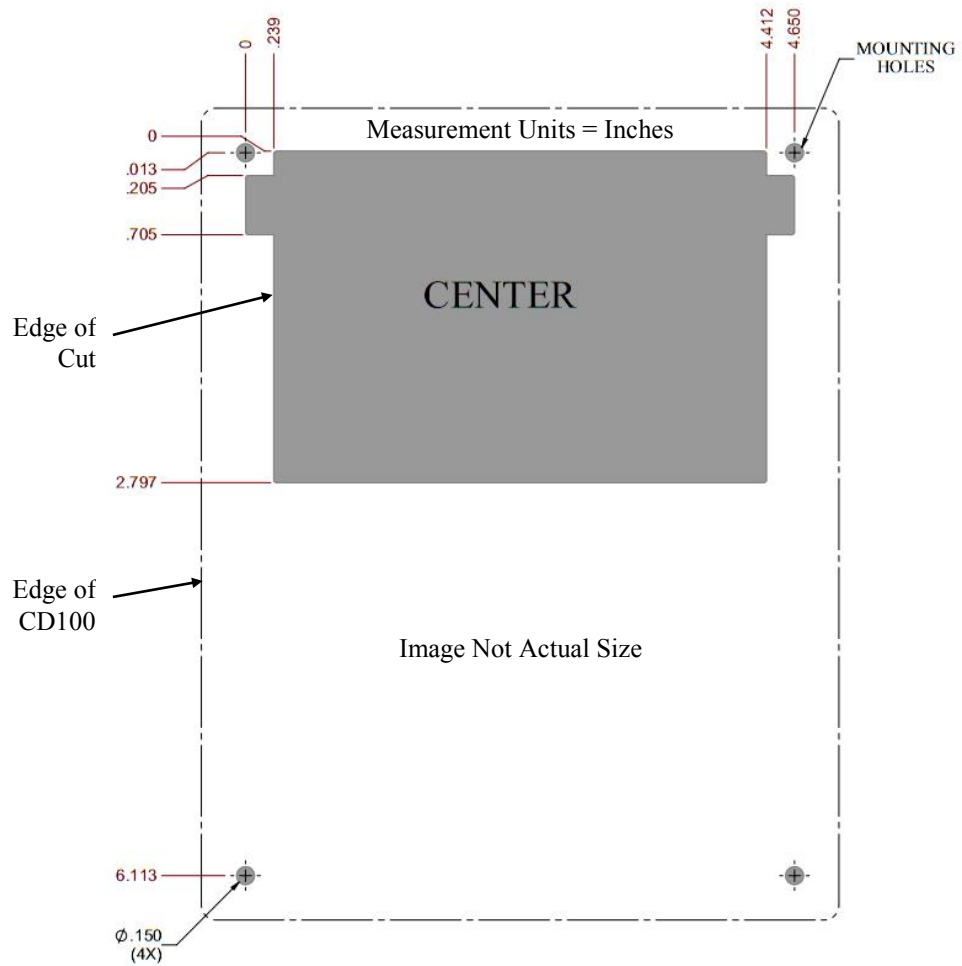

FIGURE 6-1. Template Measurements
1. Use the template shipped with the CD100 or create a template using the measurements shown in FIGURE 6-1, *Template Measurements*.